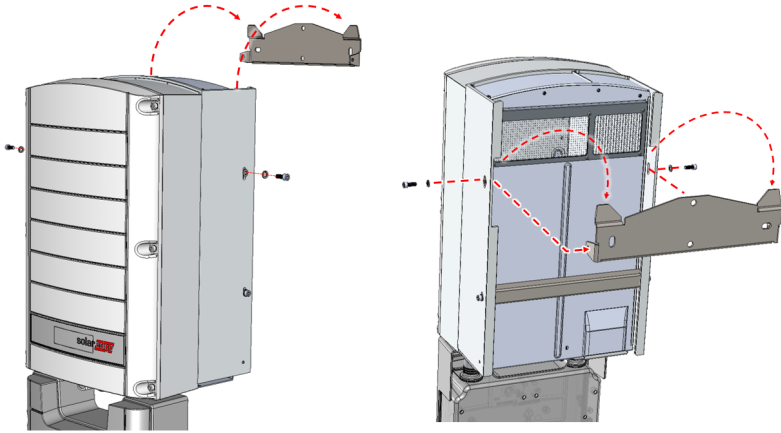

Figure 13: Hanging the inverter on the brackets
3. Hang the inverter on the bracket (See *Figure 13*):
6. Hang the inverter on the bracket (See *Figure 13*):